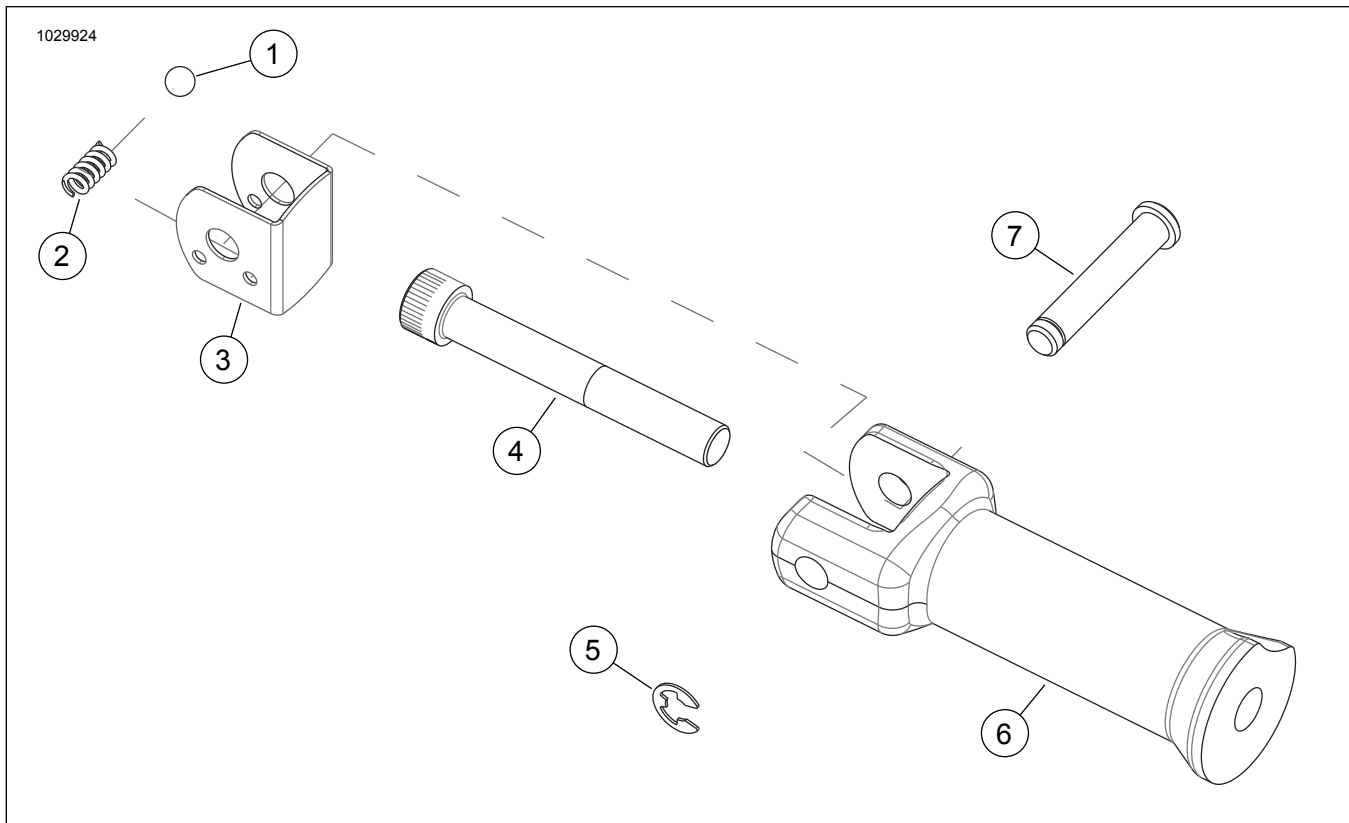

Figure 2. Service Parts, Passenger Footpeg Mounting Kit
See Figure 2 and Refer to Table 1.
See Figure 2. Position footpeg support (6) on vehicle. Install socket head cap screw (4) through footpeg support and into threaded hole of frame. Tighten to: